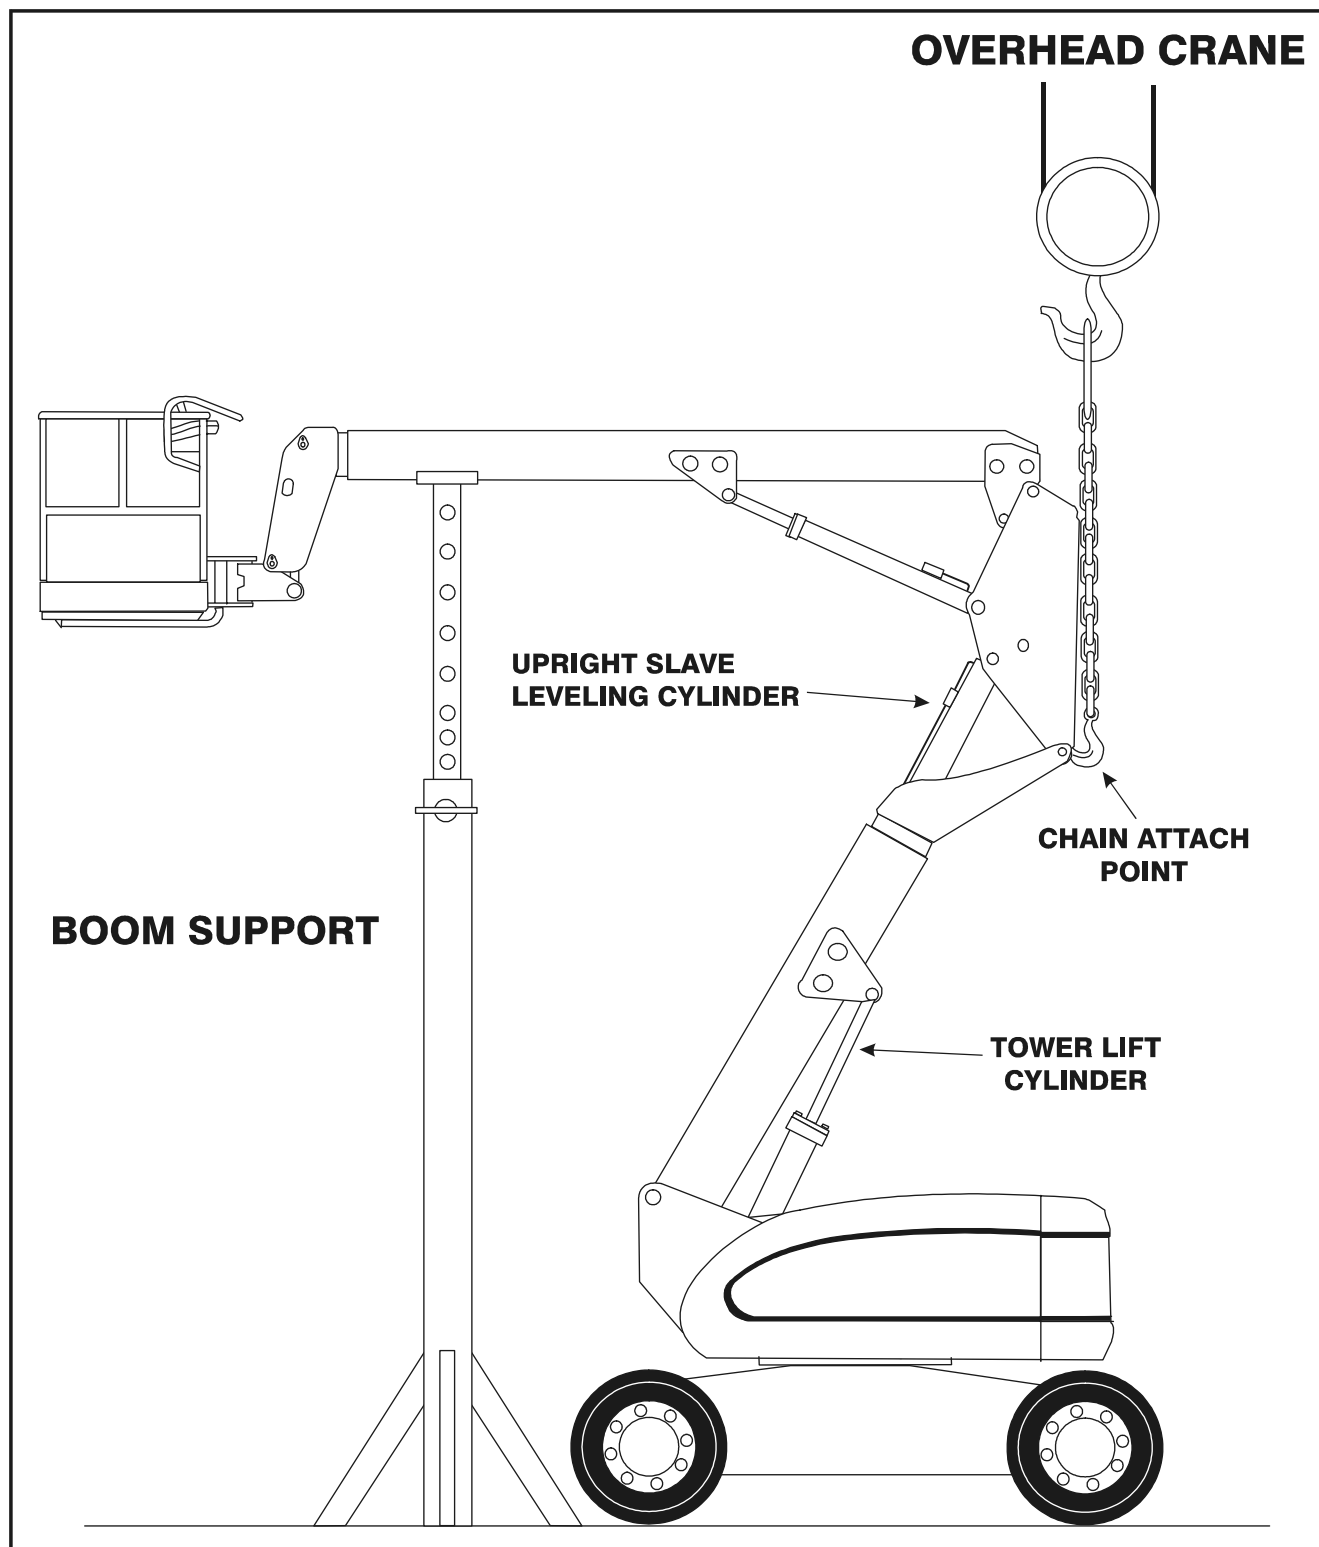

Figure 5-18. Boom Positioning and Support, Cylinder Repair (A Models)
2. Shut down engine. Support main boom basket end with a prop (See Figure 5-18., Boom Positioning and Support, Cylinder Repair (A Models).
1. Place the machine on a flat and level surface. Start the engine and place the main boom in the horizontal position. Shut down engine and prop the boom. (See Figure 5-18., Boom Positioning and Support, Cylinder Repair (A Models).
1. Place machine on a flat and level surface. Place the main boom in a horizontal position with the telescope cylinder fully retracted. Place the tower boom in a fully elevated and fully retracted position (See Figure 5-18., Boom Positioning and Support, Cylinder Repair (A Models).
2. Support the main boom with a prop. Support the upright with an overhead crane. (See Figure 5-18., Boom Positioning and Support, Cylinder Repair (A Models).
1. With the main boom and tower boom positioned and supported as in Figure 5-18., Boom Positioning and Support, Cylinder Repair (A Models), place the tower lift cylinder in position on the turntable and secure in place using slings.